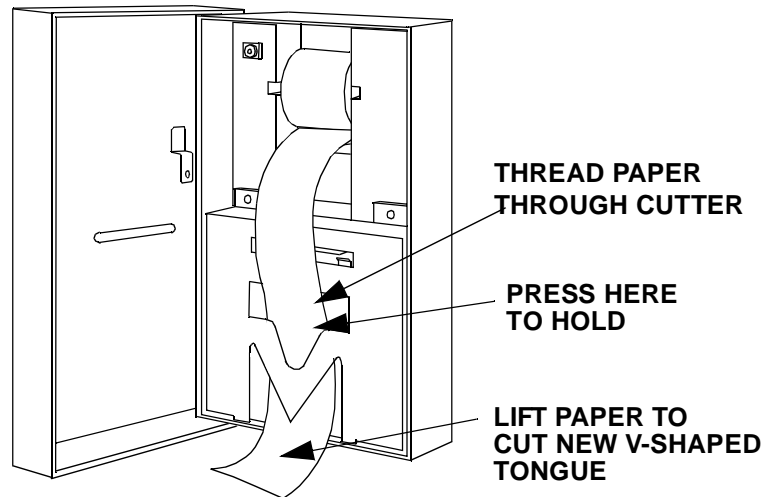

Figure 16. Paper Threaded Through Cutter
3. Cut the paper tongue using the cutting mechanism as shown [Figure 16].